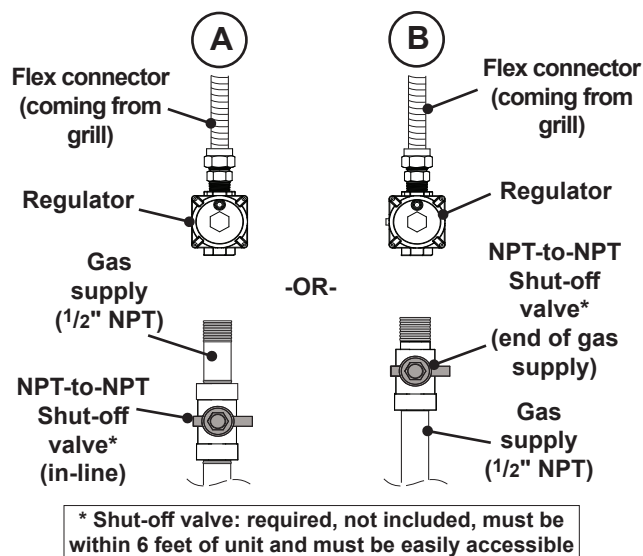

Fig. 28-3 Household propane & natural gas diagram
- Connect the regulator (on end of flex connector) to the gas supply (1/2" NPT) OR shut-off valve (1/2" NPT) using a pipe joint compound resistant to all gases (see Fig. 28-3, A or B). Tighten securely. The regulator may need to be disconnected from the flex connector to make the proper connections. Reconnect the flex to the regulator if removed.